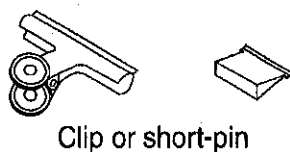

Fig.1
2. In order to prevent static electricity damage to the laser diode, use a short pin or similar tool to short the optical pickup's flexible circuit boards after they have been disconnected from the main circuit board. (as shown in Fig. 1)